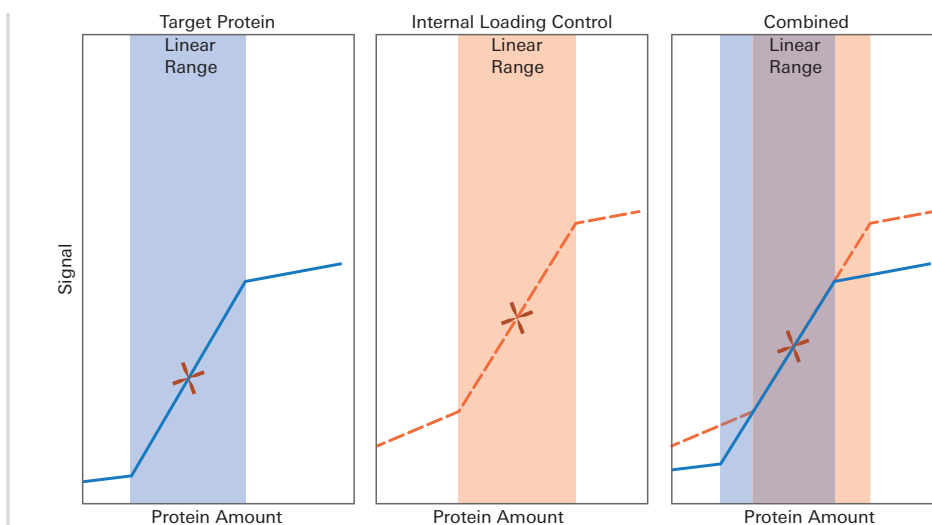

Figure 4. Choose a homogenate concentration that falls in the middle of the combined linear range for target detection and HKP detection.
7. Based on the median concentration, select a sample concentration for your experiment that will allow your target and HKP to be detected within the same linear range (Figure 4).